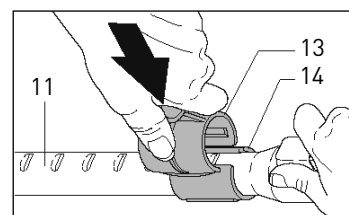

Figure 2
**Step 2:** Lay the telescopic tube (11) with the adapter attached (14) on a stable surface (e.g. a table) and press the brush clip (13) over the adapter (figure 2). The outer ridges of the brush clip adapter hold the brush clip (13) in place.